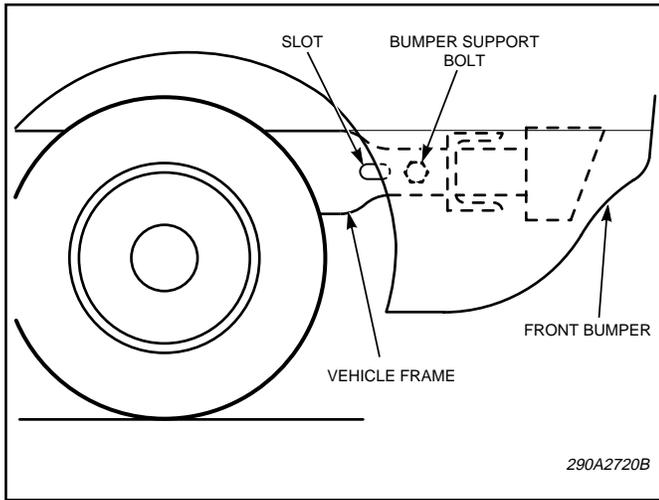

Figure 2.
3. See figure 2. Locate the slots on the chassis frame rail located directly behind the bolt that secures the bumper strut to the chassis frame rail, under the front passenger side of the vehicle.